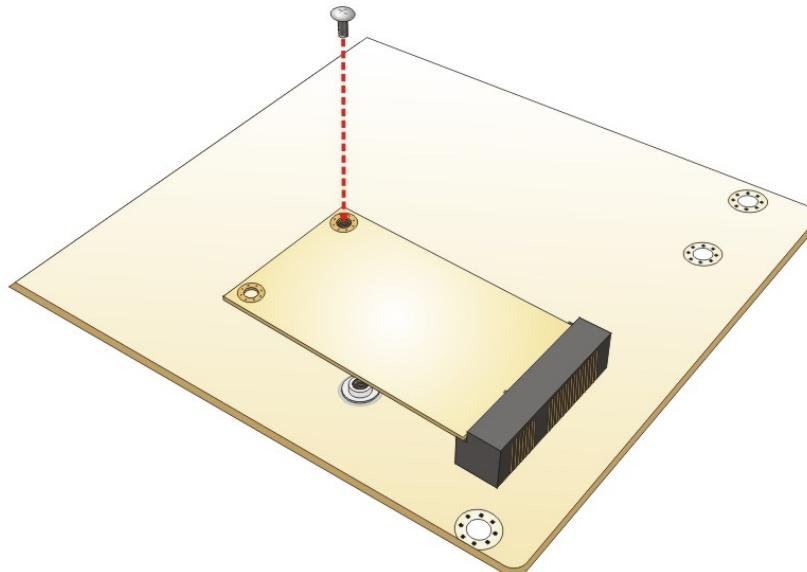

Figure 3-9: Securing the Full-size PCIe Mini Card
Step 5: Secure the full-size PCIe Mini card with the retention screw previously removed (**Figure 3-9**).